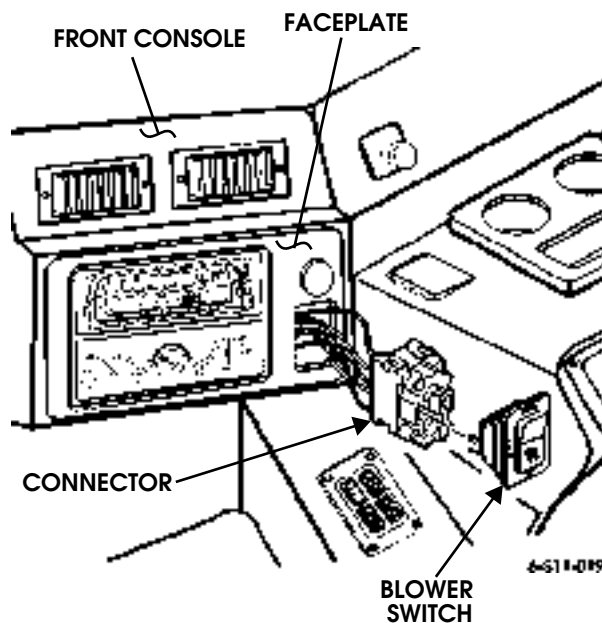

Figure 11-88: Blower Switch Replacement
3. Remove connector from back of blower switch (Figure 11-88).
1. Secure connector to blower switch and check operation (Figure 11-88).